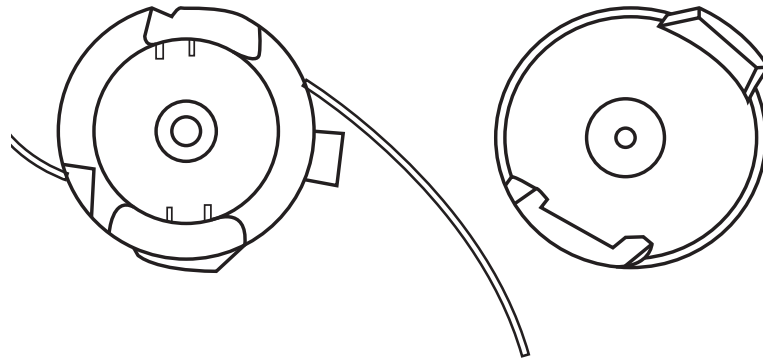

Fig. 6
1. Take the trimming head cover (1) off (Fig. 6).